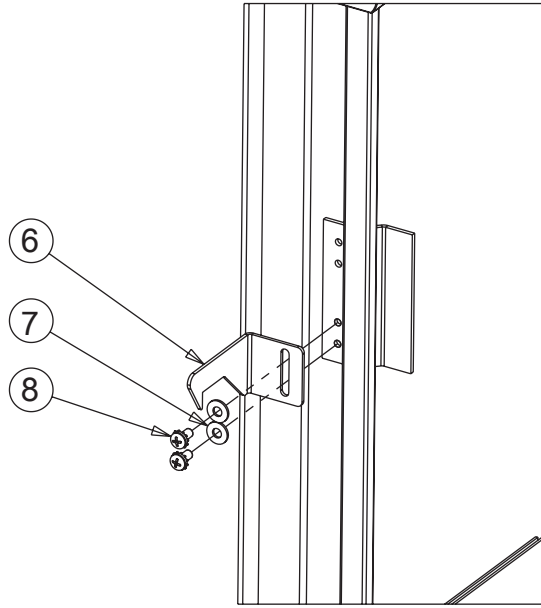

Figure 6
10. Referring to Figure 6, install the control enclosure adjustable door hook (Item 6) onto the door of the control enclosure using two 10-32 screws (Item 8) and #10 flat washers (Item 7). Initially position the hook approximately two inches from the top of the door bracket.